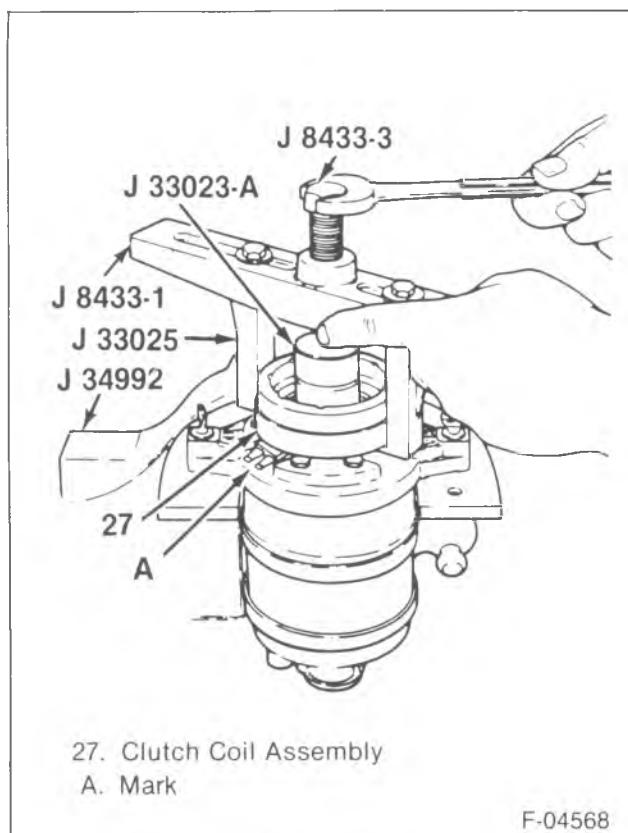

Figure 17—Removing the Clutch Coil Assembly
- Install J 8433-1 with J 33025 (figure 17).